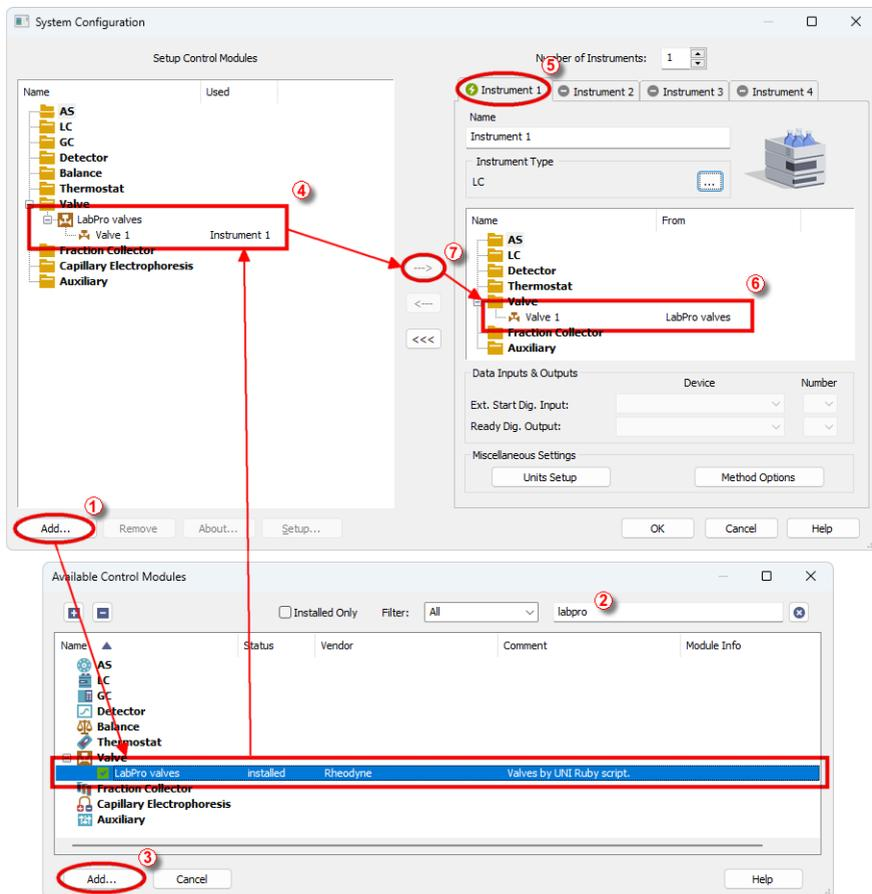

Fig. 3: How to add Rheodyne Lab Pro
- Press the *Add* button (① on Fig. 3 on pg. 4.) to invoke the *Available Control Modules* dialog.
- You can specify the search filter (②) to simplify the finding of the driver.
- Select the correct item and press the *Add* (③ on Fig. 3 on pg. 4.) button. Each device with already created UNI profile should have its own item named accordingly in the *Available Control Modules* dialog.